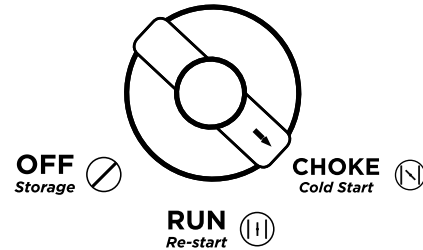

Figure 7: Turn Engine/Fuel Switch to CHOKE Position
4. For cold starting, turn the engine/fuel control switch to the **CHOKE** position (see Figure 7). **NOTE:** If you are re-starting turn knob to **RUN**.